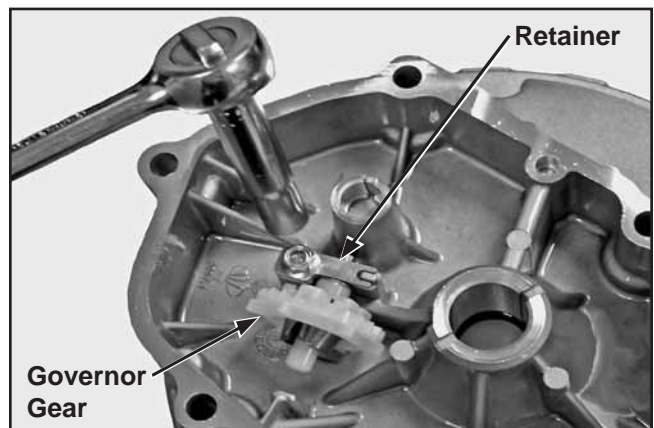

Figure 10-9. Installing Governor Gear.
1. Install the governor gear and retainer, and torque the hex flange screw to **9.5 N·m (84 in. lb.)**. See Figure 10-9.